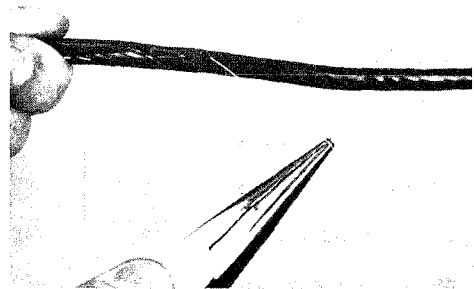

Fig. 2 — Removing Outer Jacket
4.05 Grasp the slitting cord firmly between the jaws of the long nose pliers. Pull the cord with the long nose pliers and slit the jacket for approximately 5 inches from the end of the wire as shown in Fig. 2. Trim off the slit portion of the jacket using the splicer's scissors.